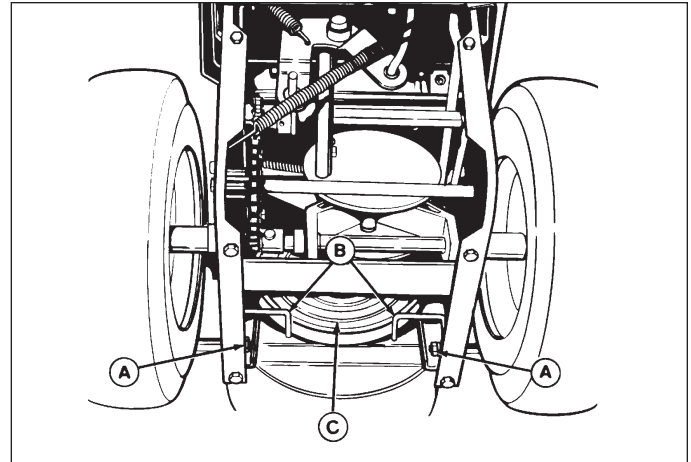

Figure 24. Auger Pulley Belt Stops
- c. Remove six capscrews from bottom cover to snowthrower frame. Loosen nuts (A, Figure 24) on each side to release auger pulley belt stops (B). Move belt stops and remove belt from pulley (C).